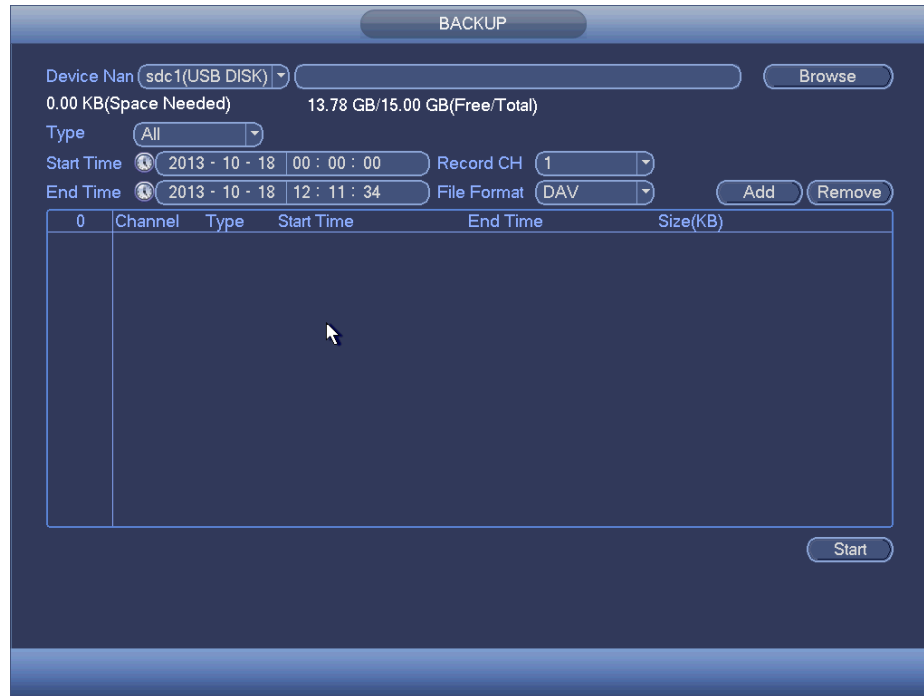

Figure 3-92
- From Main menu->Backup, user may go to the Backup interface. See Figure 3-92.